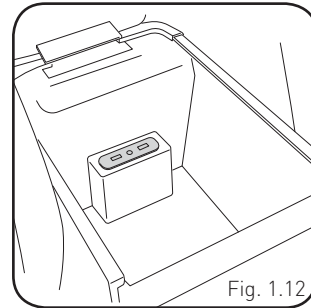

Fig. 1.12
13. To retain the factory USB location, the media hub needs to be replaced with the adapter included with the CHA1 kit. (Fig. 1.12) To remove the media hub, follow these steps: